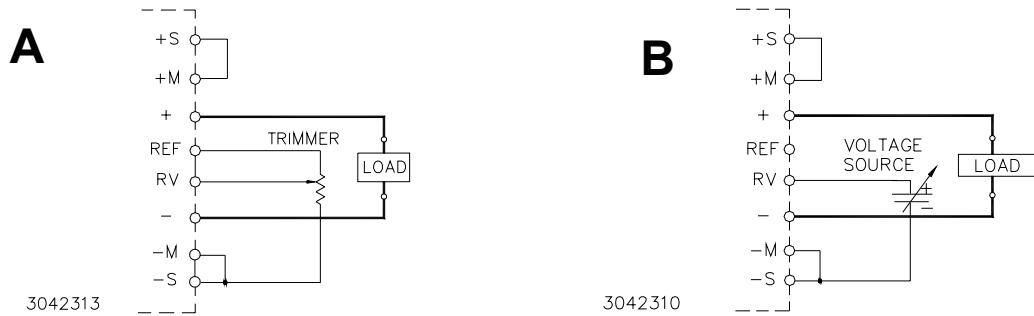

FIGURE 7. CONNECTIONS FOR REMOTE VOLTAGE CONTROL
RESISTANCE: Use a shielded wire 6.6 feet (2m) maximum in length, for connection (of REF, RV, and –S terminals) to the trimmer control. Connect the external trimmer as shown in Figure 7 (A). Suggested value for the trimmer control is 5K ohms). With the external trimmer control at its maximum clockwise position, set the output voltage to the desired maximum value by adjusting Vadj clockwise. The value should range from 0 to 120% of Eo nominal (from 0 to 110% for the 48-volt
VOLTAGE. By adjusting an external 0-6V voltage source (0-5.5V for the 48-volt model, the 3.3-volt model can be adjusted to 3.6V) from minimum to maximum, the maximum output voltage can be adjusted from 0 to 120% (V) (for the 48 volt models 110%). Remove the shorting link between the REF and RV terminal. Connect the voltage source across the RV and (-)S terminals as shown in Figure 7 (B).